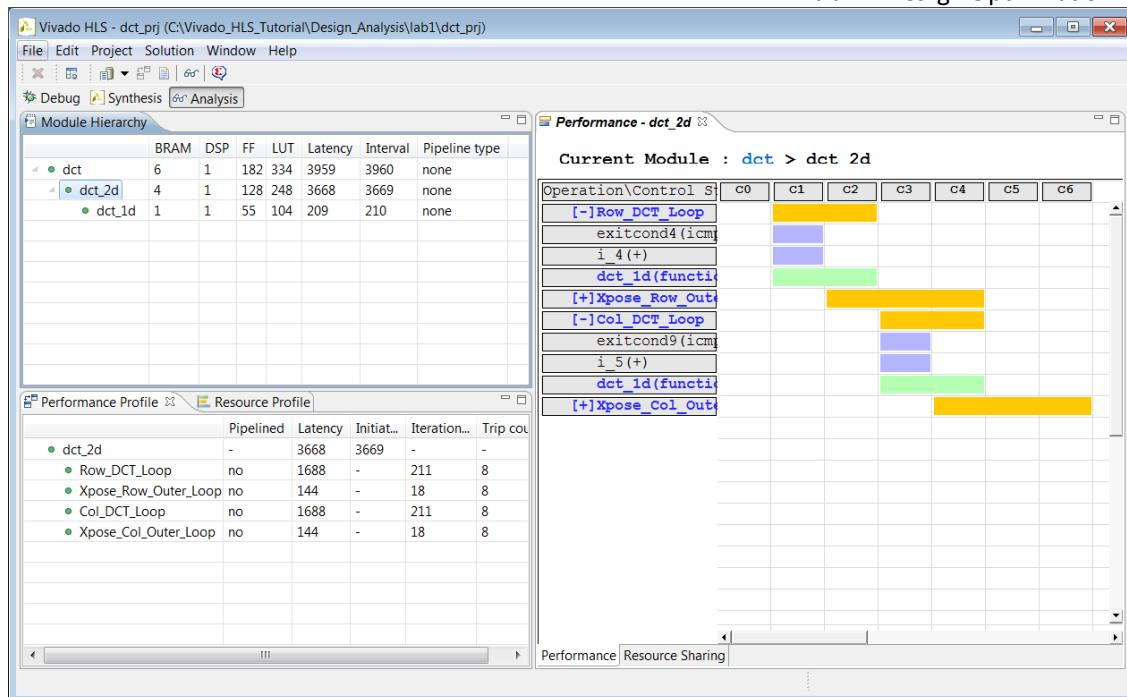

Figure 117 DCT_2D Performance View
- In the Module Hierarchy, click on function **dct_2d** to navigate into the view for this function (Figure 117).
Again, you can see a number of loops (shown in yellow in Figure 117): multiple iterative states. These can be pipelined to improve the performance. The details in the Performance Profile shows most of the latency is caused by loops Row_DCT_Loop and Col_DCT_Loop.
In the Performance Profile we can see the latency of all the loops has been substantially reduced (Row_DCT_Loop and Col_DCT_loop have been approximately halved from the earlier report in Figure 117). However, the majority of the latency is still due to these two loops, each of which calls the dct_1b block.